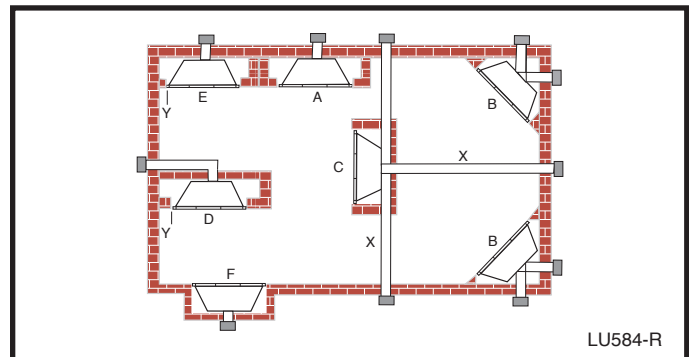

Fig. 1 Locate gas fireplace.
NOTE: (fig. 1)
** Island (C) and Room Divider (D) installation is possible as long as the horizontal portion of the vent system (X) does not exceed 20' (610cm). See details in Venting Section.
* When you install your fireplace in (D) Room divider or (E) Flat on wall corner positions (Y), a minimum of 6" (153mm) clearance must be maintained from the perpendicular wall and the front side edge of the fireplace. Refer to (Y) in Figure 1.